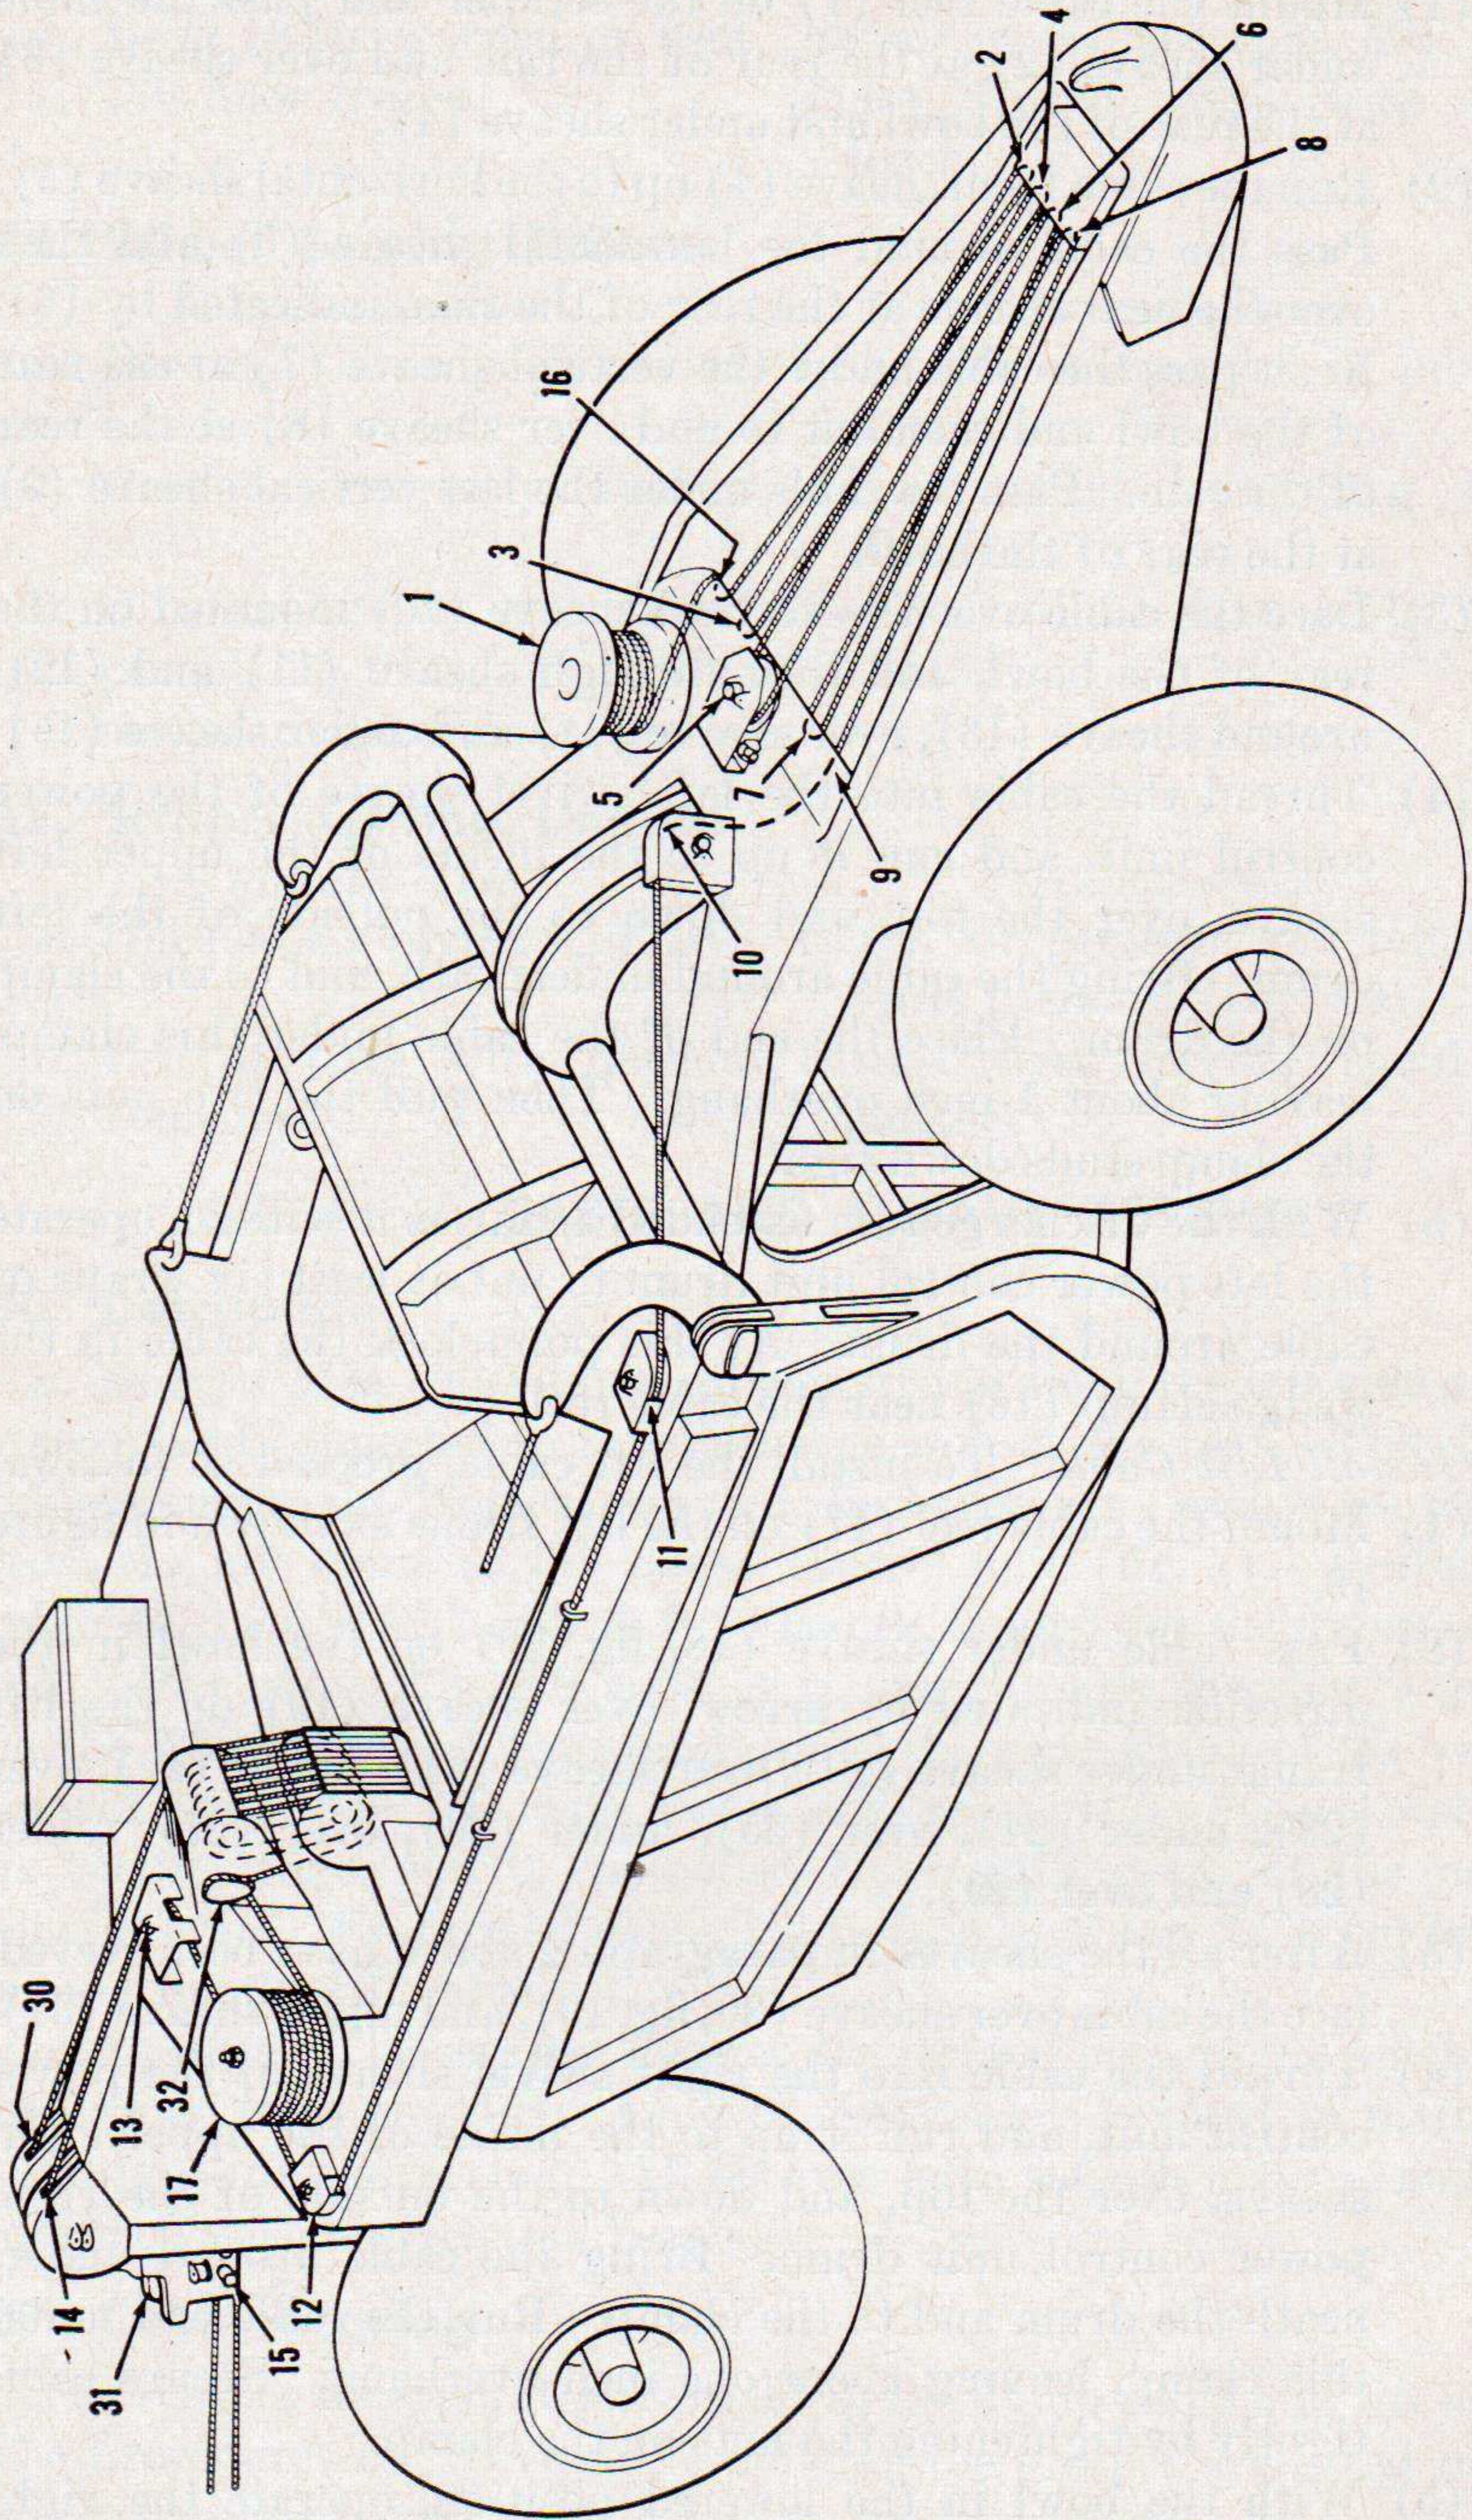

Figure 19. Cable reeving diagram.
a. *Install Dump Cable* (fig. 19). To install the dump cable, proceed as follows:
- (1) Mount the cable reel (1) on the scraper and pass the cable under sheave (2) at the rear of the ram and over sheave (3) at the rear of the bowl and under sheave (4).
- (2) Run the cable from sheave (4) up to the horizontal sheave (5). Pass the cable around the horizontal sheave (5) and then over the next sheave at the rear of the ram, indicated by (6). Next, pass the cable under the vertical sheave (7) at the rear of the bowl and then out to and over sheave (8) at the rear of the ram. Pass the cable under the last vertical sheave (9) at the rear of the bowl.
- (3) Lace the cable over the vertical sheave (10) mounted on the rear of the bowl, and then through sheave (11) and (12), around sheave (13), over sheave (14) and under sheave (15).
- (4) Thread the cable into the left swivel sheave of the power control unit, and run it up to the inside of the upper left sheave, over the top, and down to the outside of the left drum. Bring the cable around underneath, and to the clamp on the drum. Place the end of the cable under this clamp, leaving about 1-inch overhang. Then pull the two nuts on the clamp studs down tight.
- (5) With the discharge ram extended as far as it will go, operate the left power control unit drum to put at least six wraps of cable around the drum. At this point lock the cable in the wedge clamp (16) near the cable reel.
- (1) Mount the cable reel (17) on the lift frame as shown in figure 19.
- (3) After all the sheaves in paragraph 2 above have been reeved, lace the cable over sheave (30, fig. 19), and under sheave (31).
- (4) Thread the cable into the right swivel sheave of the power control unit, and run it up to the inside of the upper right sheave, over the top, and down to the outside of the right power control unit drum. Bring the cable around underneath the drum and to the clamp. Run the cable end under this clamp, leaving about one inch overhang. Secure cable tightly by tightening the nuts on the clamp.
- (5) With the bowl in the lowered position, operate the right power control unit drum, and put at least nine wraps of cable
around the drum. After the wraps are made, secure the cable in the wedge clamp (32, fig. 19), on the left side of the lift frame sheave housing.